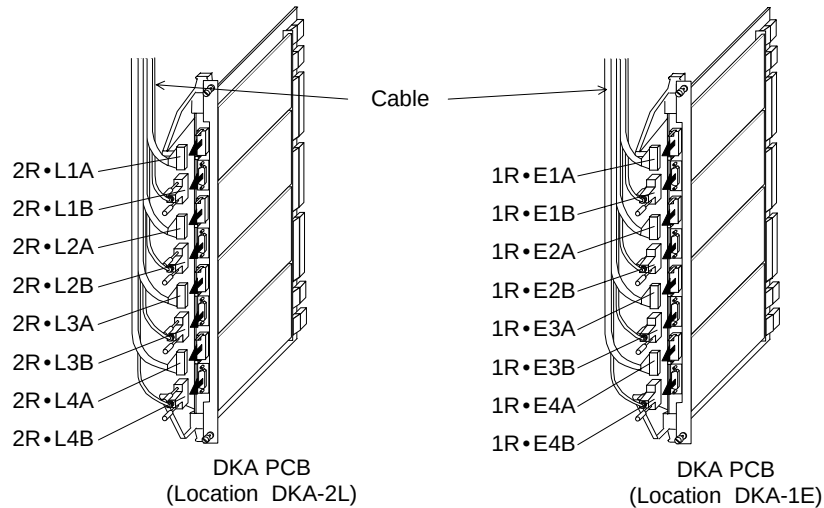

Fig.4.1.6-14 Disconnection of DEV Interface Cable (Add.3)
- a. Remove the two screws and remove the PCBs from the correct locations in the Rear Logic Box referring to Fig. 4.1.6-15.